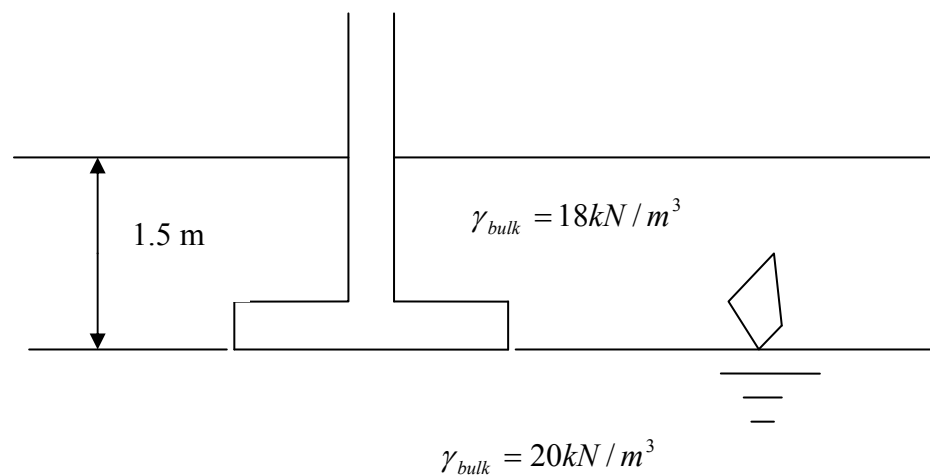
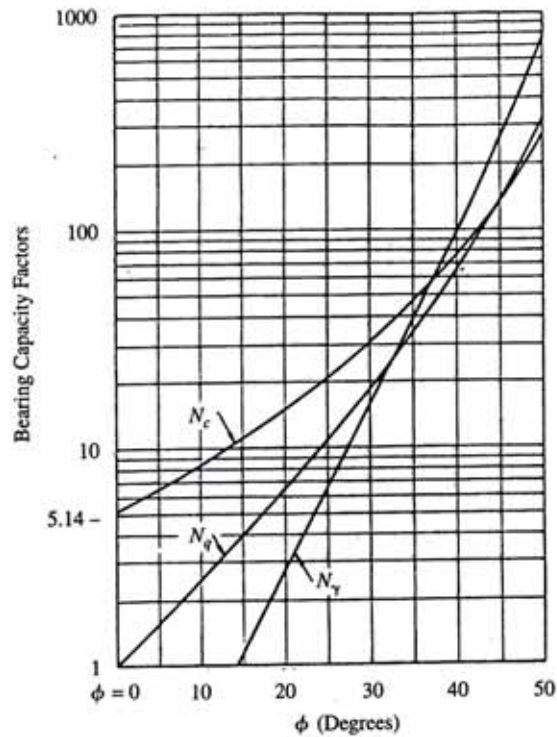

Figure 4 – Pad foundation in clayey/sandy ground
Figure 5 – Chart associated with Question 5.
5. The column load on a footing has been calculated as 1.0 MN. You need to design a square pad footing to cater 3 times of the given column load, i.e., FOS = 3.0. You have decided to place the footing at 1.5 m below ground, exactly at where the water table is. The material above footing level has a bulk unit weight of 18 kN/m^3 and below footing level 20 kN/m^3 . A schematic diagram of the case is given in Figure 4. Terzaghi's equation for ultimate bearing capacity, q_{ult} , for square foundation is given by: $q_{ult} = 1.3 cN_c + 0.4B\gamma N_\gamma + qN_q$. An associated chart is given in Figure 5